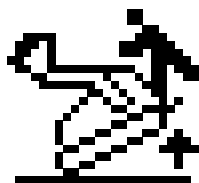

Figure 29
When you extend the loader arms to the maximum reach for the arm height and load weight, the arms will stop extending and the InfoCenter will display the Smart Load icon (Figure 29).
4. Use hand tools to rotate the hardware counterclockwise until the brake is released or you cannot rotate the screw (Figure 29).